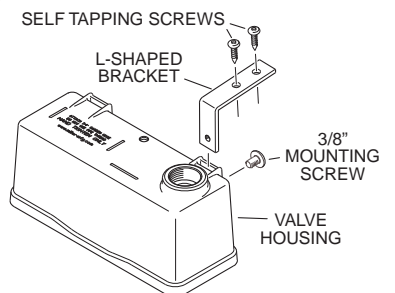

Figure 6
1. Slide both L-shaped brackets into the valve housing as shown (see Figure 6).